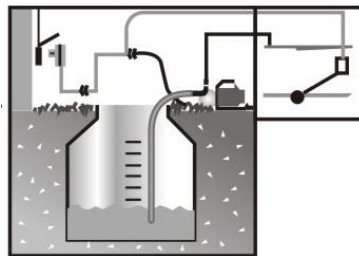

Figure 3
- As soon as the water level drops under the required minimum height, the switch starts the pump. If the tank is full, the switch stops the pump. The height of automatic water level control is set according to Fig. 3.